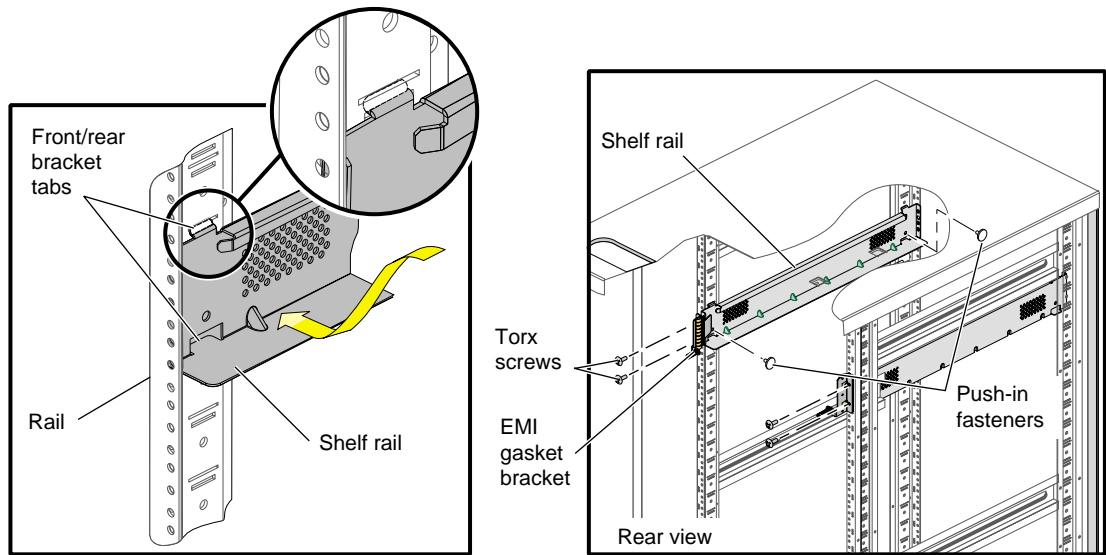

Figure 1-23 Installing the Shelf Rails in the Rack
2. In the slot location from step 1, position the left shelf rail at a 90-degree angle to the front and rear rack rails (see Figure 1-23).